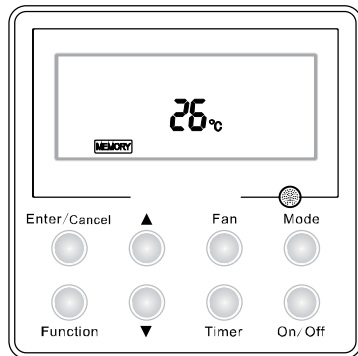
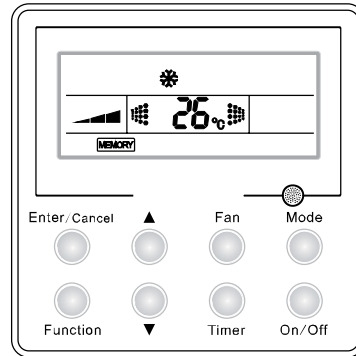

Fig.5 “Off” Status
Fig.6 “On” Status
- ◆ Fig. 5 is the “ Off ” status when the unit is powered on. Fig.6 show the “ On ” status when the unit is powered on.